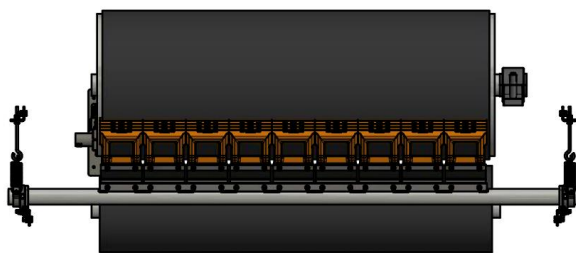

Fig. 3a
6. Centre the blades across the belt and tighten all collar and pivot mount bolts to retain the cleaner in the centre position (refer figure 3a).